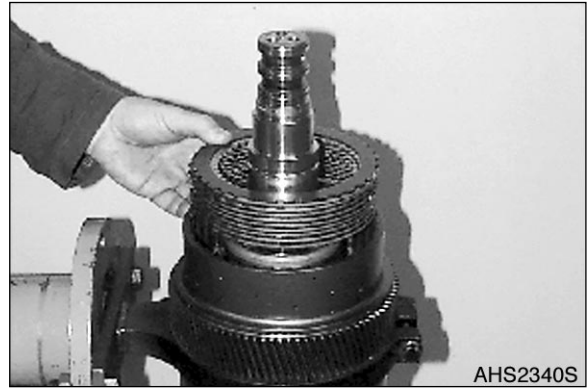
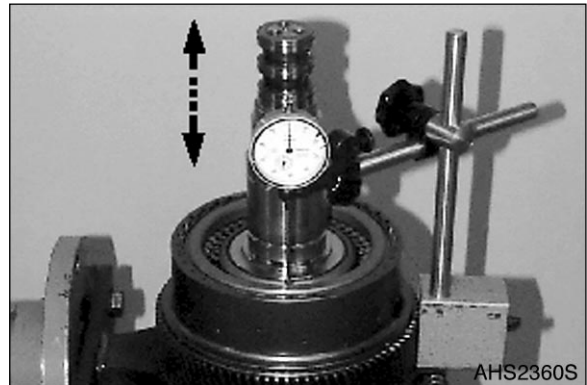

Figure 274
Figure 276
1. Check plate clearance $K1 = 2.6 - 2.8 \text{ mm}$ (0.1024 - 0.1102 in) (Figure 274 - Figure 276).